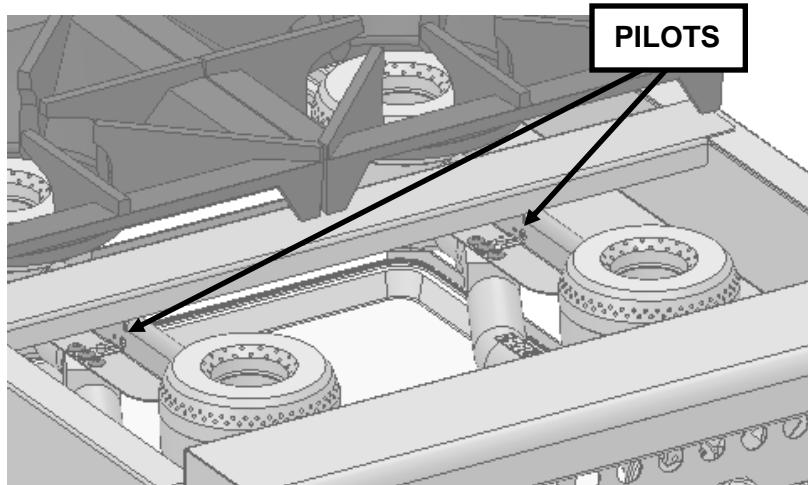

Fig. 5
1. See Fig 5. Turn main gas shut-off valve and all burner control knobs to the OFF position and wait 5 minutes to allow any accumulated gas to escape.
1. Voir Fig. 5. Fermez le robinet d'arrêt principal